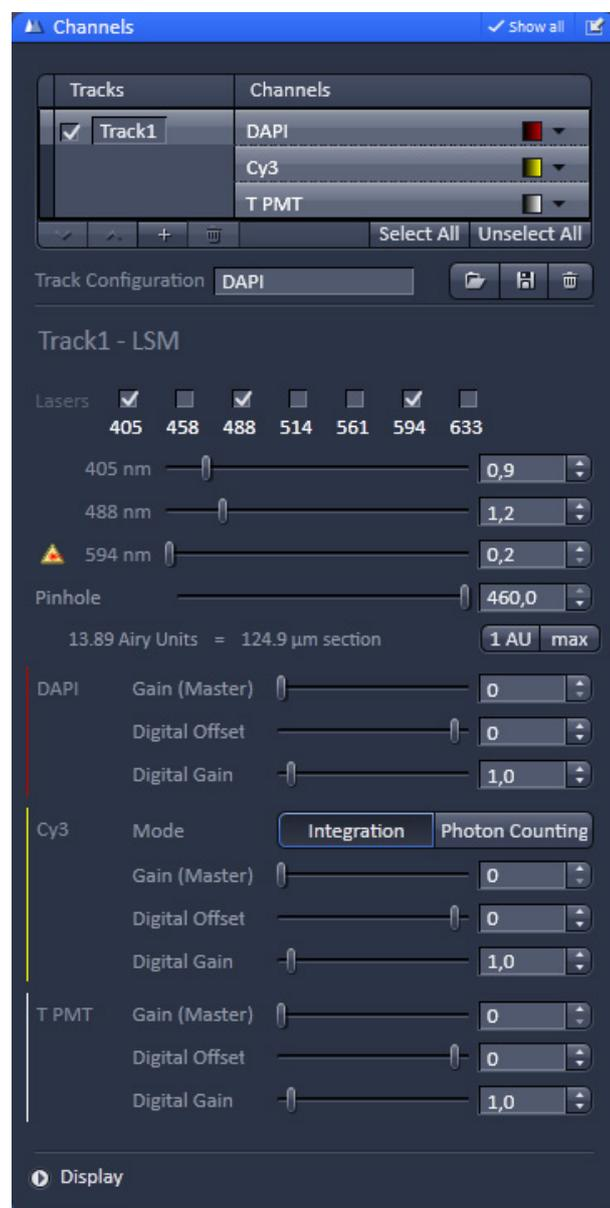

Fig. 24 Channels tool
- Set the **Pinhole** to **1** Airy Unit (Fig. 24).
- When the image is saturated, reduce AOTF transmission in the **Laser** control section of the **Channels Tool** (Fig. 24) using the slider to reduce the intensity of the laser light to the specimen.
- Increase the **Digital Offset** until all blue pixels disappear, and then make it slightly positive (Fig. 24).